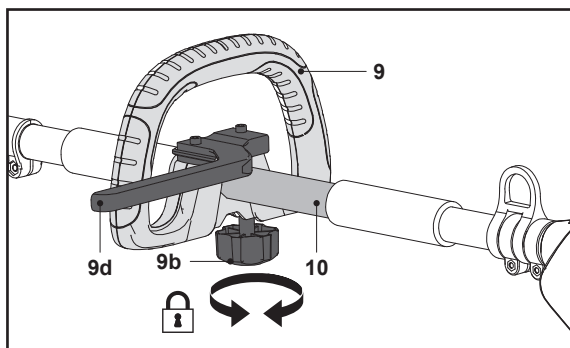

Fig. 7
5. Move the auxiliary handle (9) freely on the upper pole (10) to the appropriate position (Fig 7, step 1).
6. Secure the auxiliary handle (9) by tightening the lock knob (9b) clockwise by hand (Fig. 7, step 2).